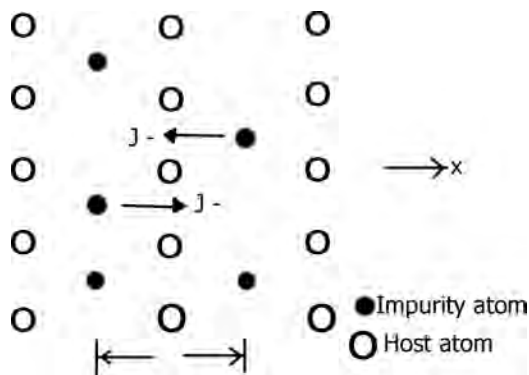

FIGURE 15.1 One-dimensional diffusion.
- The frequency with which the diffusing atom jumps to any available adjacent site is called the *total jump frequency* and is denoted by Γ . In Figure 15.1, only jumps to the left or the right are shown, making $\Gamma = 2w$, and the equation for diffusivity becomes